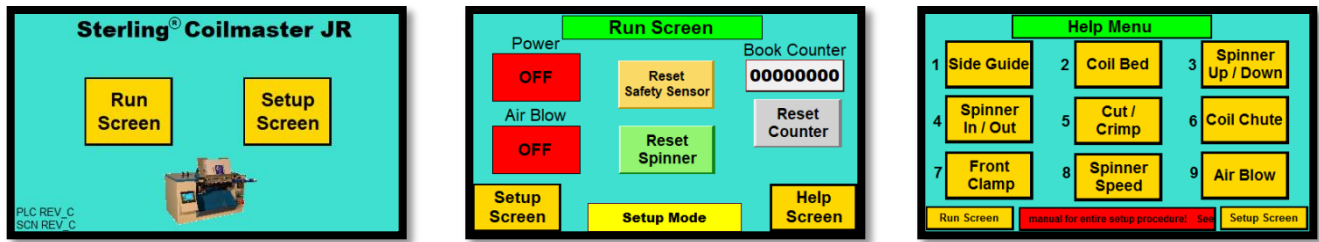

Figure 6
- f. **Air Blow:** Blows air through the side of the book. This can be turned on and off from the “Run” screen. Figure 6
- **Power Button:** When pressed, the machine will be ready to bind books. Figure 6
- **Air Blow button:** This is used to help the operator jog the book in position by blowing air into the book as it is placed on the coilbed. Figure 6
- **Book Counter:** This is a daily count and can be reset at any time. Figure 6
- **Setup Screen Button:** After pressing this button, the machine will be in the setup mode. Figure 6
- **Help Screen Button:** Will display a step by step help menu including images. **This will vary slightly from the procedures in this manual!** Figure 6
- **Reset Spinner Button:** Will let an operator restart the spinner wheel if the coil did not go all the way through the book during the first attempt. Figure 6
- **Reset Safety Sensor:** If the knife safety sensor was triggered, press this button to reset and finish cycle. Figure 6
- **Message Center:** This will inform the operator if there is a coil jam, power off, E-stop pressed, safety sensor triggered or if the machine is in the setup mode. Figure 6